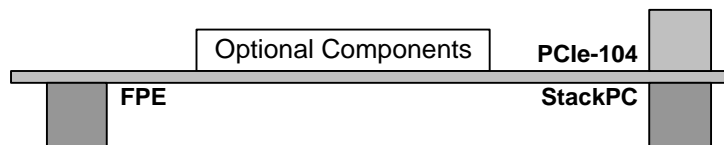

Figure 8-26: «StackPC-FPE to PCIe/104» bridge module
1. To use Host with PCIe/104 Type 1 connector on Bottom side (Figure 8-26).